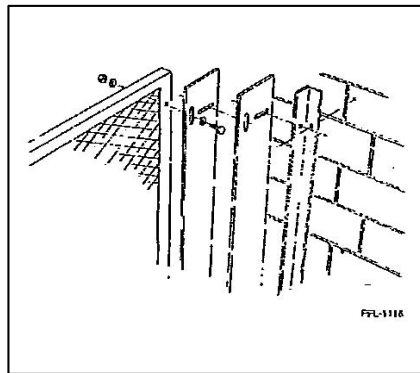

Figure 6
7. Wall attachment kits are provided when a gate or panel meets an existing wall. **See Figure 6.**